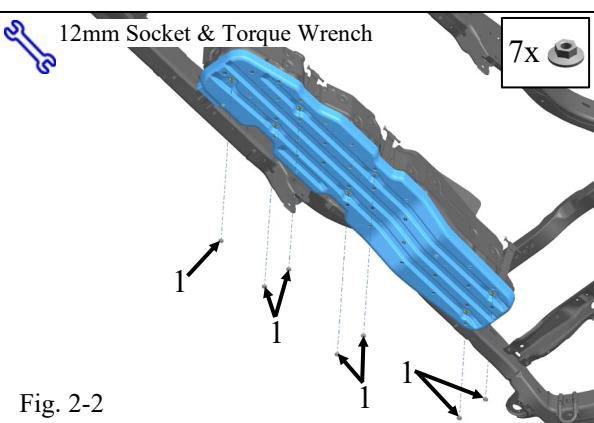

Fig. 2-2
- While holding the skid plate in position, install and hand tighten M8 x 1.25 flange nuts (90178-A0114) (7) (Fig. 2-2) at all mounting holes.